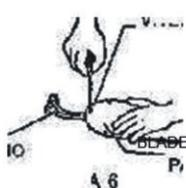

FIGURE 6
1. Mount the brackets on the blades using the supplied screws and washers, as shown in Figure 6. Make sure all the screws are tight.